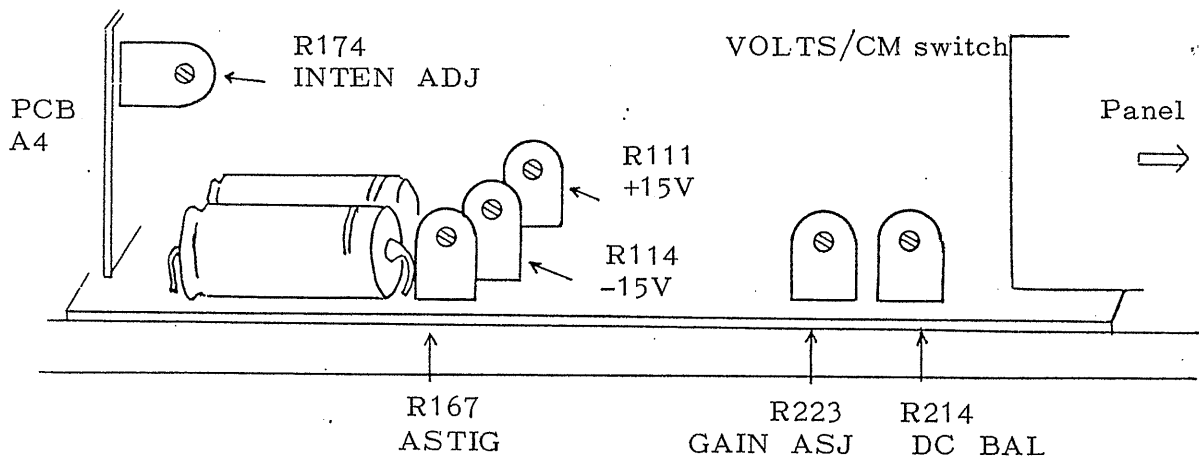

Fig. 5-4
First, turn R114 shown in Fig. 5-4 with a screwdriver, until -15V is obtained. Then, turn R111 for +15V.
A variable range of the INTEN knob is adjusted with the INTEN ADJ semi-fixed resistor (R174 shown in Fig. 5-4). Adjust it until the trace disappears when setting the INTEN knob on the front panel at angle of 45° rightward.
- (1) Set the VOLTS/CM to the 0.01V.
- (2) Set the VARIABLE to the CAL'D.
- (3) Apply a square wave of 1 kHz and 50mVp-p (Properly calibrated CALIBRATOR may be used.) to the vertical input terminal.
- (4) Adjust R223 shown in Fig. 5-4 so that vertical amplitude is 5cm.